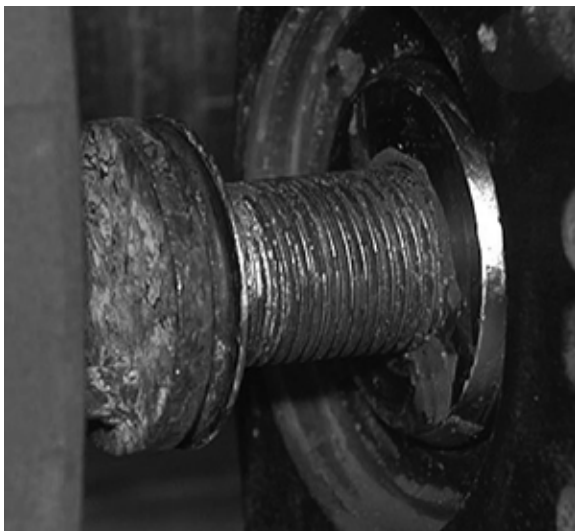

Figure 74: Corroded adjuster piston
- Check** the thread of the adjuster piston for corrosion, wear and damage (Figure 74).